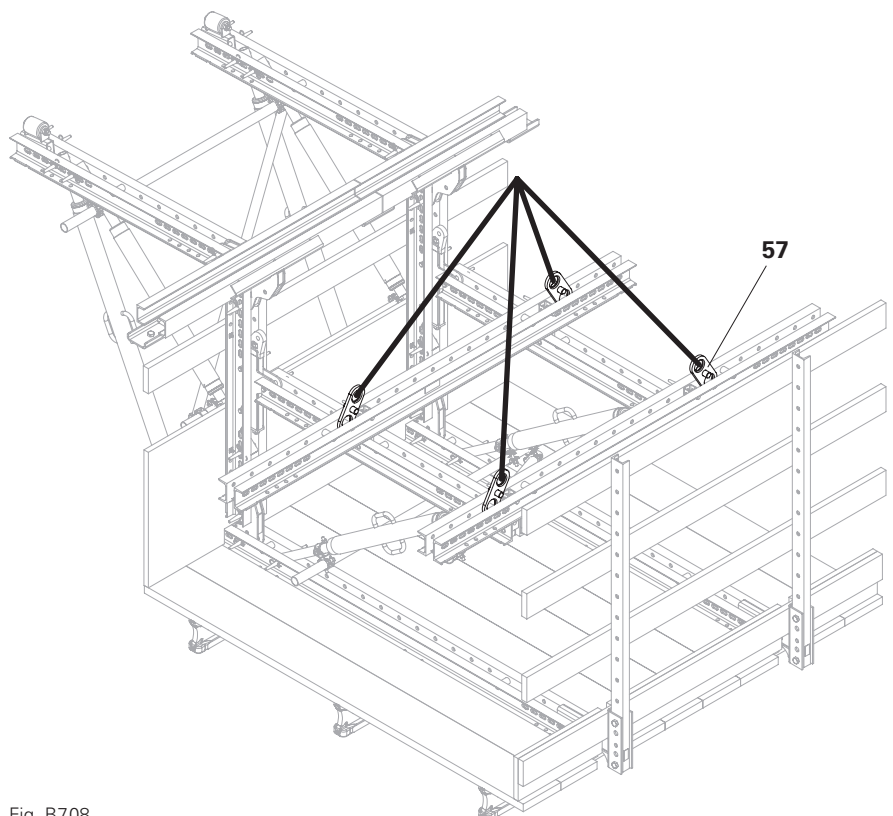

Fig. B7.08
- In terms of the arrangement, ensure that the weight is evenly distributed. (Fig. B7.08 + B7.08a)